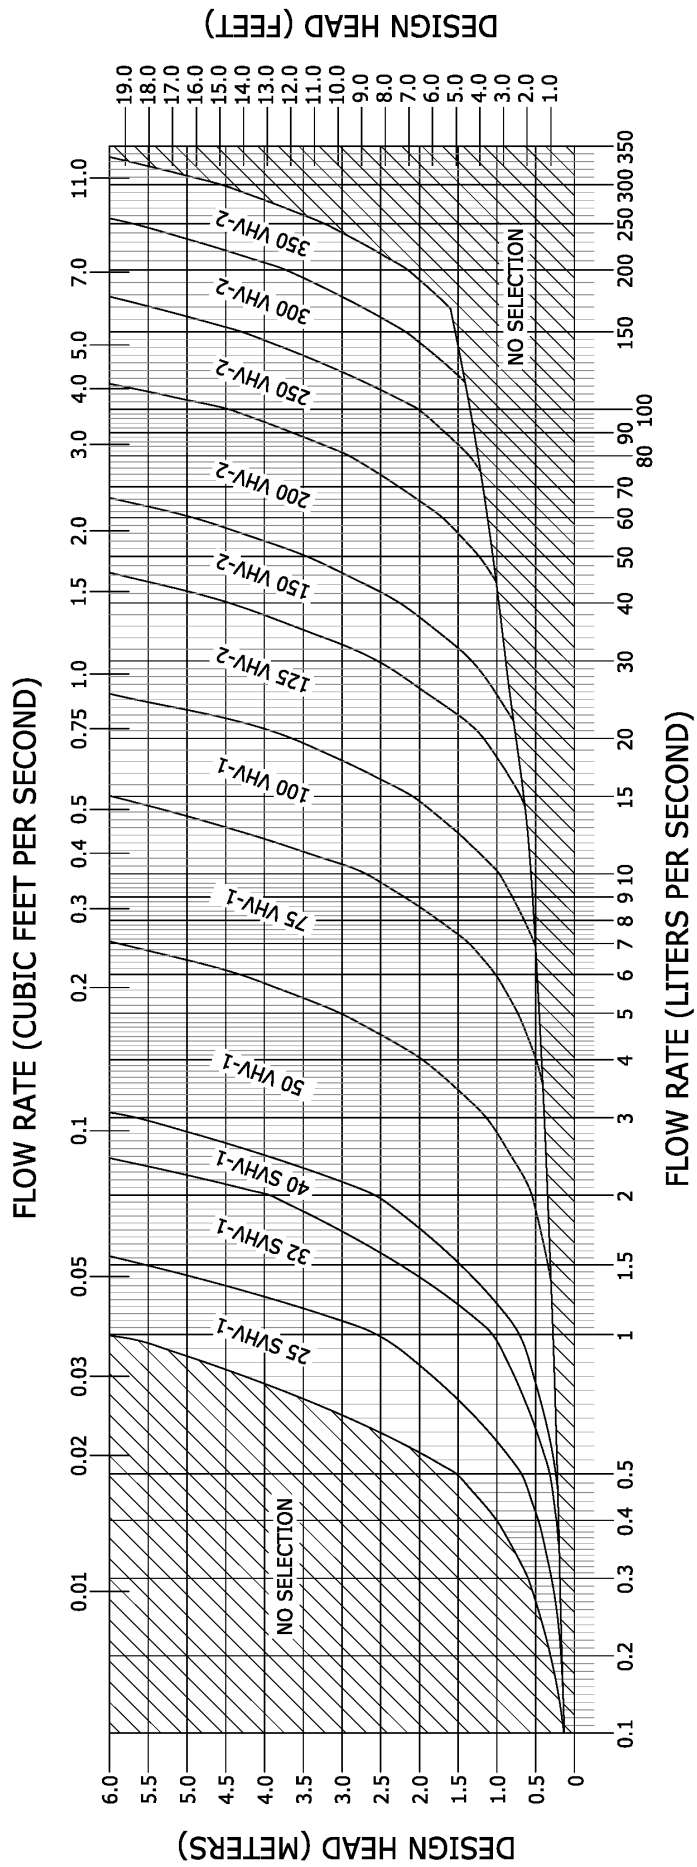

Figure 3 : HYDROVEX® VHV/SVHV Selection Chart
Selecting a VHV/SVHV regulator is easily achieved using Figure 3. Each selection is made using the maximum allowable flow rate and the maximum allowable upstream water pressure (head). The area in which the design point falls will designate the required model. The maximum design head is defined
- Using Figure 3, model 75 VHV-1 is selected